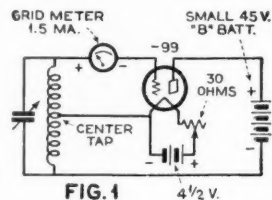

FIG. 1
(1) A radio-frequency oscillator. A satisfactory circuit is given in Fig. 1. Those experimenters who constructed the modulated oscillator described in the February, 1929, issue of RADIO NEWS may use it, for it is very well suited for use in the following tests. It is essential that the oscillator be arranged with a 1.5 milliammeter in the grid circuit in order that the output of the oscillator may be held constant. The variable condenser in the oscillator should be fitted with a good dial so that accurate adjustments can be made.